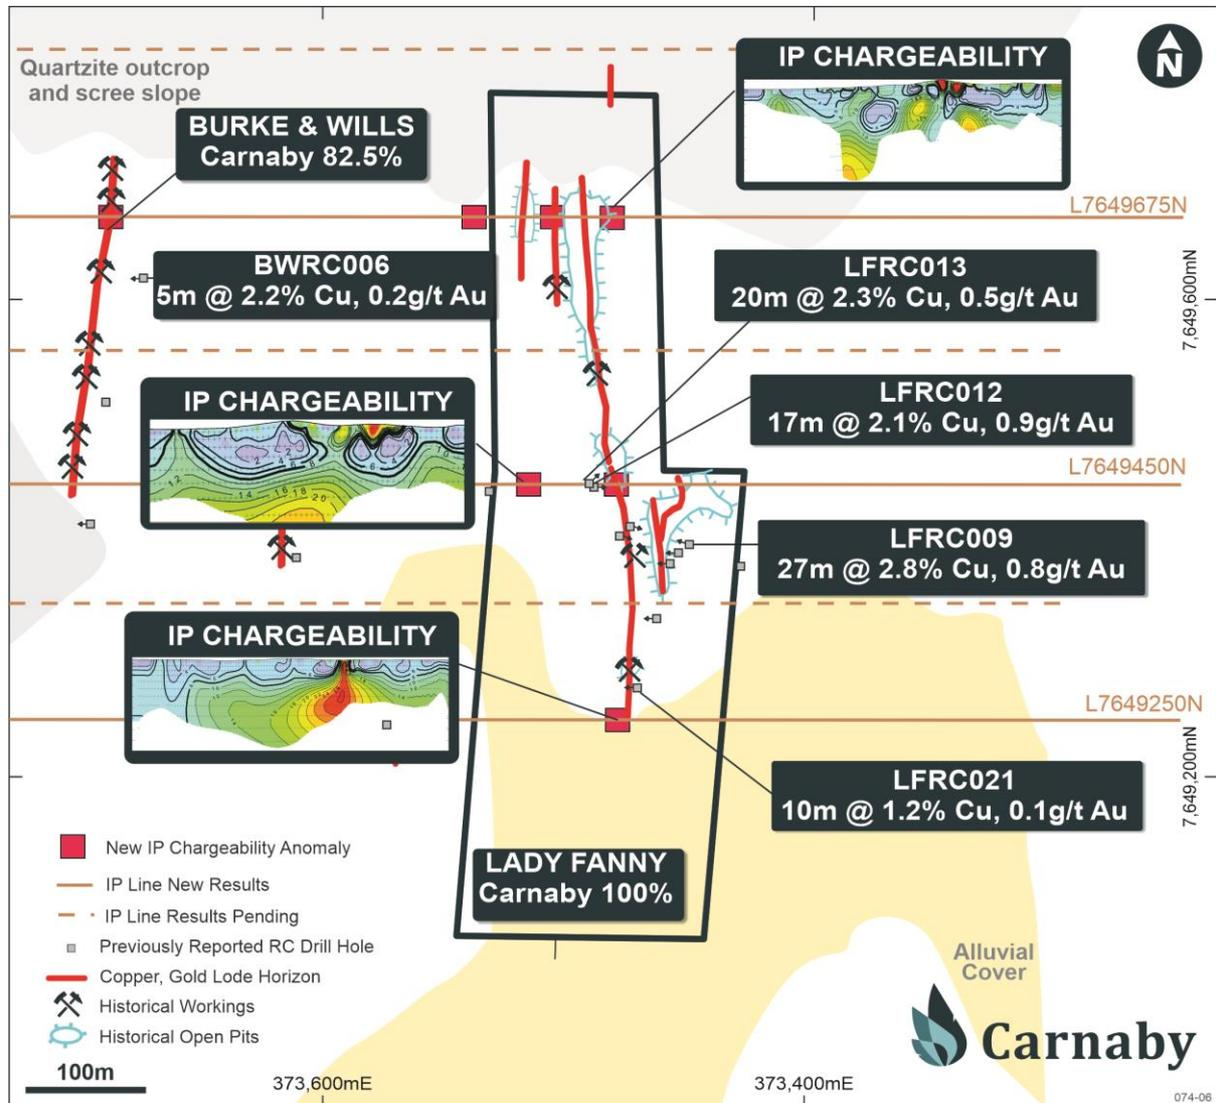
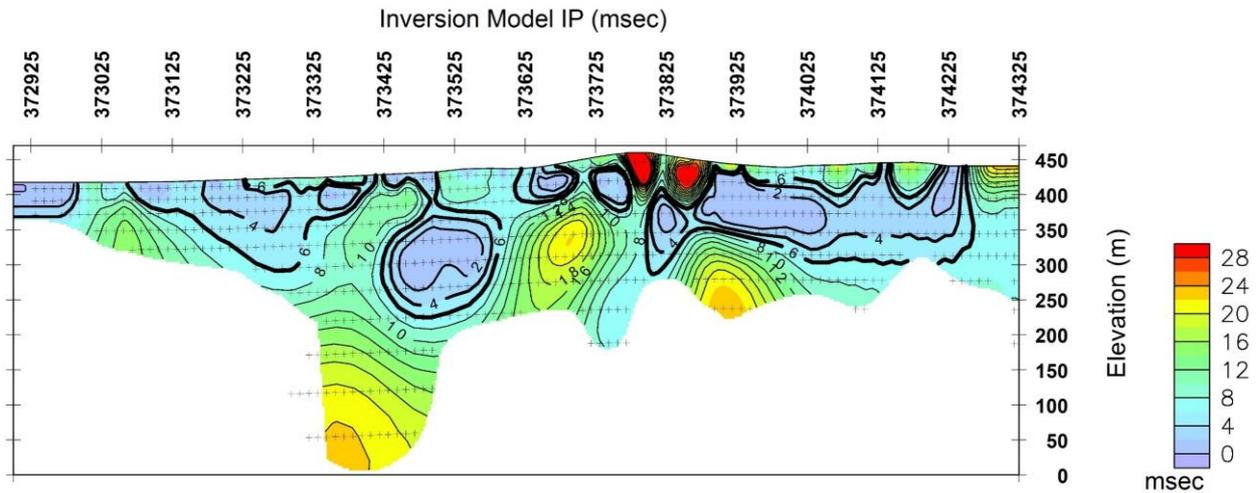

Figure 1. Lady Fanny Plan Showing new IP inversion chargeability anomalies.
Figure 4. IP line L7649675N chargeability inversion showing location of anomalies.
- **Induced Polarisation (IP) results have been received from the first three lines at Lady Fanny completed on ~200m spaced east-west traverses. Results from a further three IP lines are awaited.**
- **The IP results have recorded several strong undrilled inversion chargeability anomalies of exceptional potential and completely open at depth and along strike (Figure 1, 2, 3 & 4).**
Results from the first three lines of IP at Lady Fanny have outlined several strong inversion chargeability anomalies across all three lines (Figure 1, 2, 3 & 4). Data from an additional three infill and extension IP lines have been received and inversion modelling of the data is underway and will be reported shortly. The IP lines were completed over 1.4km long east-west traverses covering the entire Lady Fanny to Burke & Wills lines of workings.
IP line 7649250N is the southern most IP line completed at Lady Fanny (Figure 1). This IP line is south of any previous drilling and is on the edge of where thin alluvial cover masks the southern strike potential of the main Lady Fanny Lodes (Figure 1 & 5).
IP line 7649675N was completed over the northern end of the Lady Fanny workings (Figure 1). No drilling at all has yet been completed in this area with the closest drill hole being 200m to the south which intersected 20m @ 2.3% copper, 0.5g/t gold in LFRC013.
The results highlight two extremely strong and shallow chargeability anomalies on the edge of the historical workings with maximum modelled inversion chargeability's of 47 and 37 m/sec (Figure 4).
Of great interest is the IP inversion chargeability anomaly at about 100m depth at approximately 373700E (Figure 4). This anomaly appears to coincide with a similar magnitude IP chargeability anomaly on the IP line 7649450N, 225m to the south (Figure 1 & 3). It is not yet known whether this new chargeable zone approximately 100m west of the main Lady Fanny line of lode is a new parallel lode horizon and only future drilling will tell.
The three IP lines across the Burke & Wills line of lode, 400m west of Lady Fanny, in general were fairly subdued in the shallow depths with only a weak chargeability anomaly generated at shallow depths on IP line 7649675N (Figure 4). However, a strong deep chargeability anomaly was generated directly beneath the Burke & Wills lode at approximately 373400E and will be investigated with drilling in the future (Figure 4).